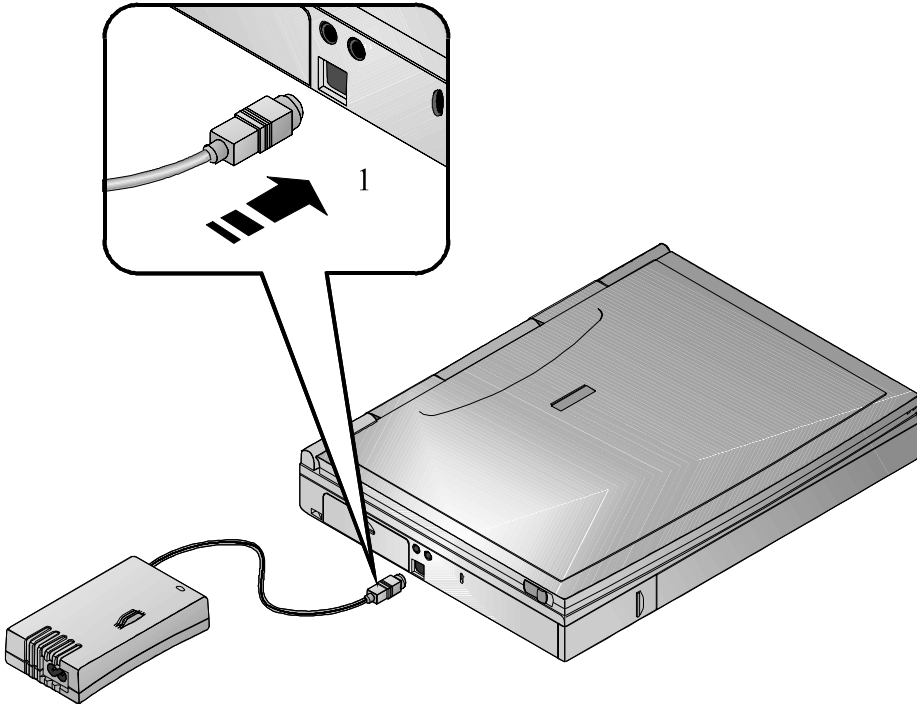
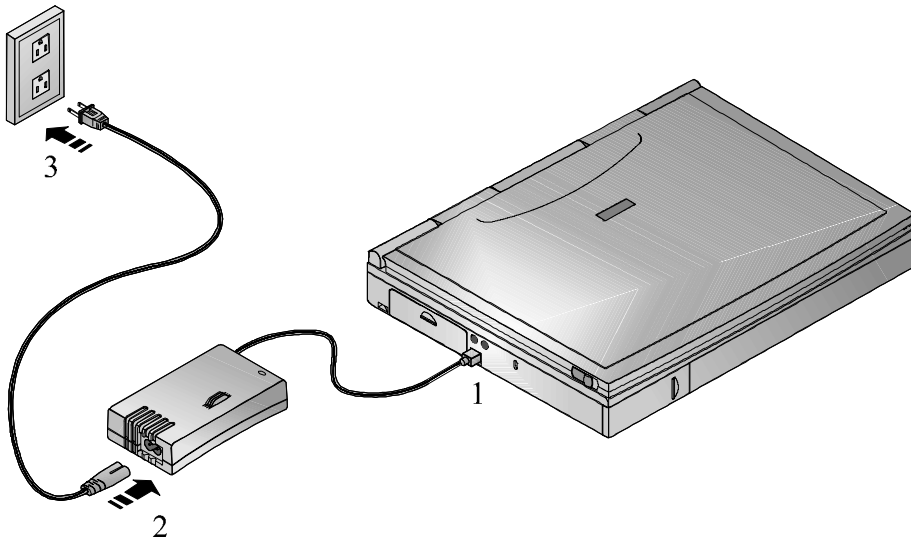

Figure 1-5: AC Adapter to Notebook Connection
Figure 1-6: The Notebook to AC Power Connection
To power the notebook by using the supplied Universal AC Adapter, refer to figure 1-5, figure 1-6 and the following instructions:
1. Connect the Universal AC Adapter to the AC port (Figure 1-5, step 1).
2. Connect the power cord to the port on the AC Adapter(Figure 1-6, step 2).
3. Plug the power cord into an electrical outlet (Figure 1-6, step 3). The green LED on the AC Adapter will light.